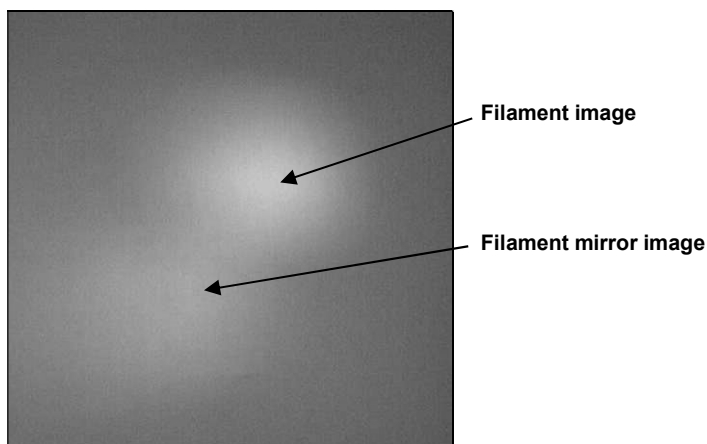

Fig. 16: Visible light spots.
- Direct the light emission to a uniformly bright projection screen (e. g. to a white wall, ceiling, cabinet door). You should then see two differently large and bright light spots. The larger spot is the direct image of the lamp filament, the second its mirror image generated by the retroreflector in the lamphouse. (Fig. 16).